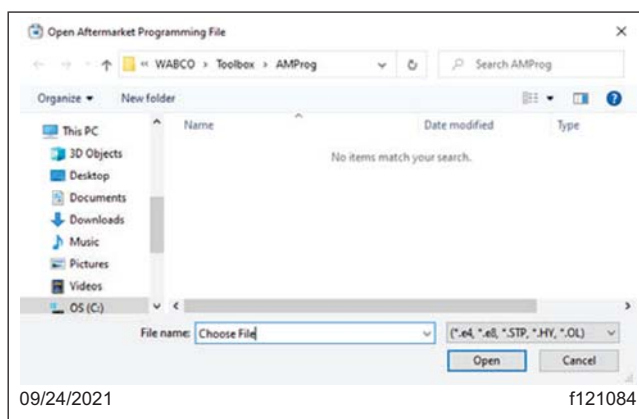

Fig. 14, Locating and Selecting the Configuration File
16. Use the file selection box to locate and select the configuration file that was downloaded. Confirm the part number and VIN of the vehicle. Select the file, then select 'Open.' See Fig. 14.